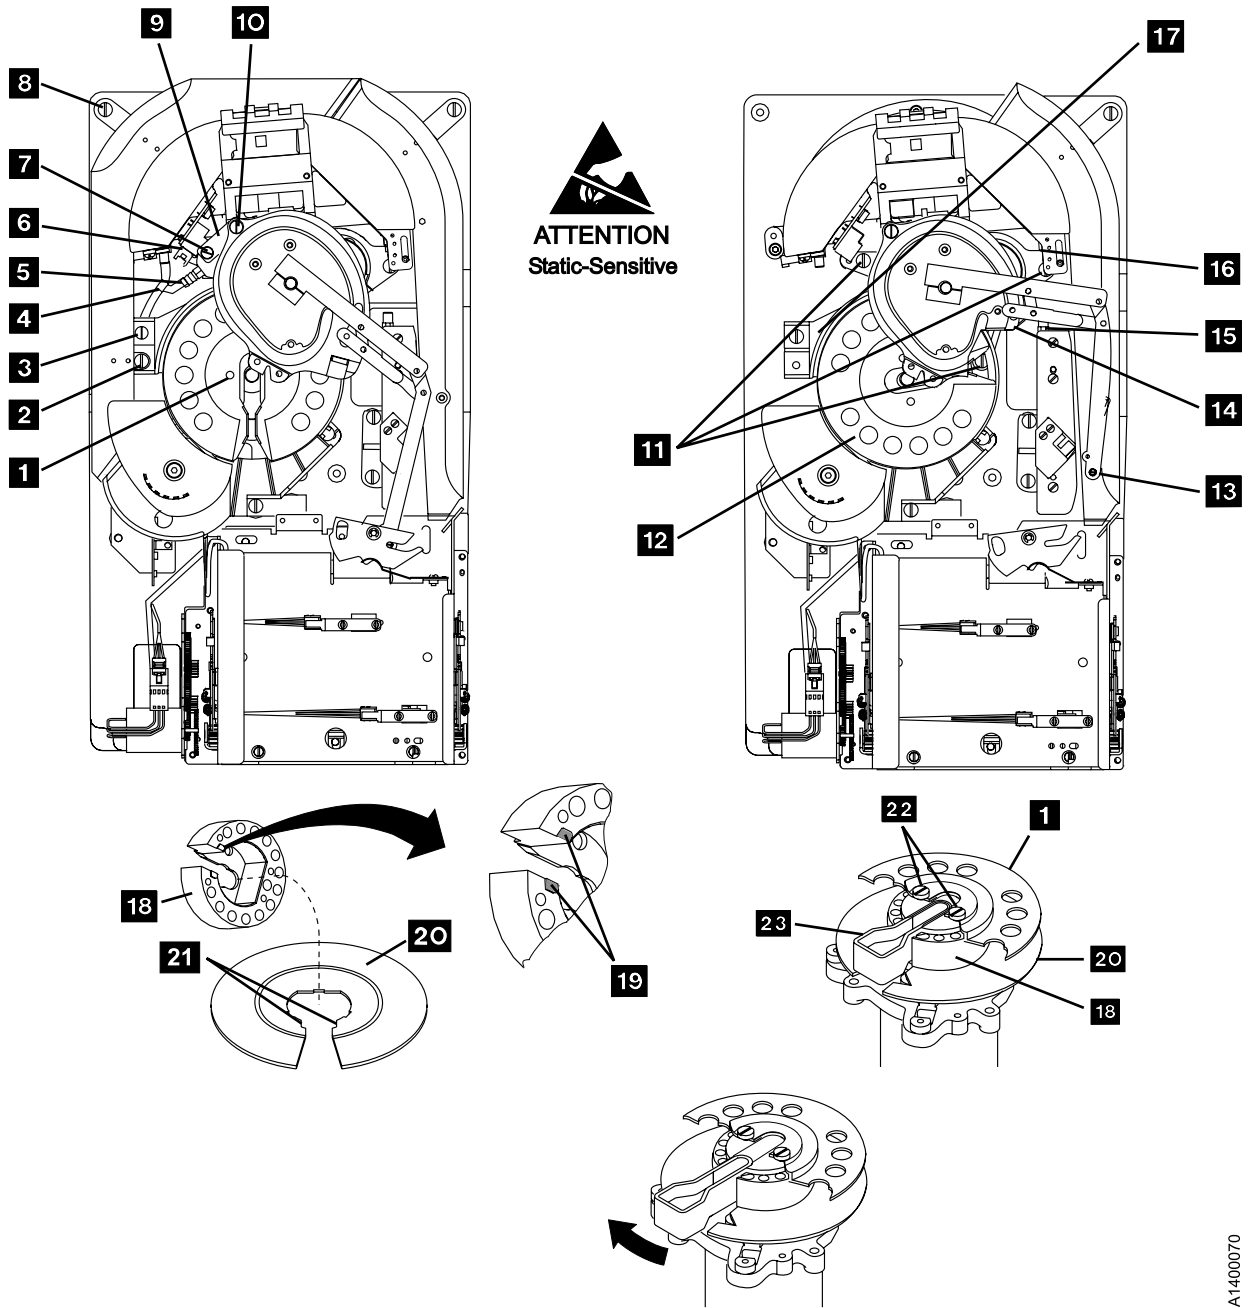

Figure 3. Pantocam
See Figure 3 on page 13.
- \_\_\_ 4. Refer to Figure 3 on page 13.
Now refer to Figure 3 on page 13